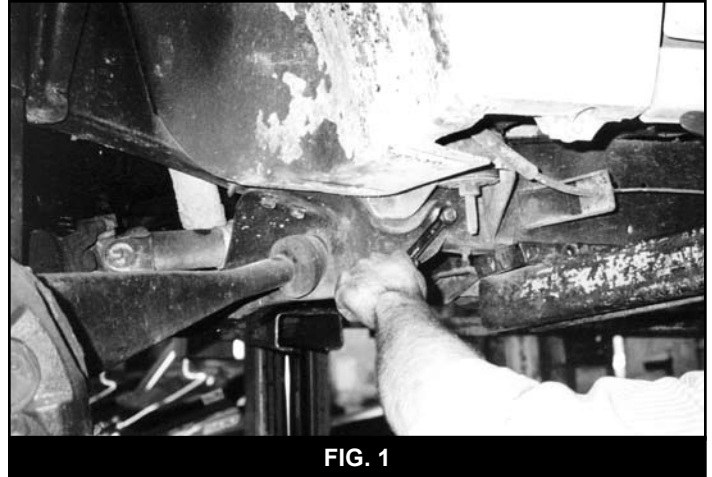

FIG. 1
5. Remove the stock radius arm drop brackets from the frame rail only. Do not detach the radius arm bracket from the radius arm. The stock rivets can be removed using an air chisel. Do not use a torch! The pressurized fuel system is located inside the driver's side frame rail. Remove additional OE bolts. (Fig. 1)